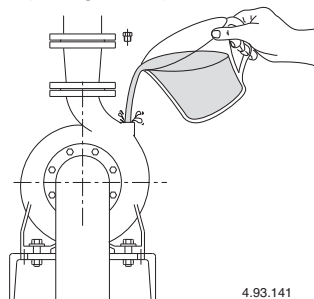

Fig. 3 Filling.
**When the pump is located above the water level** (suction lift operation) fill the suction pipe and the pump through the priming hole Fig. 3.